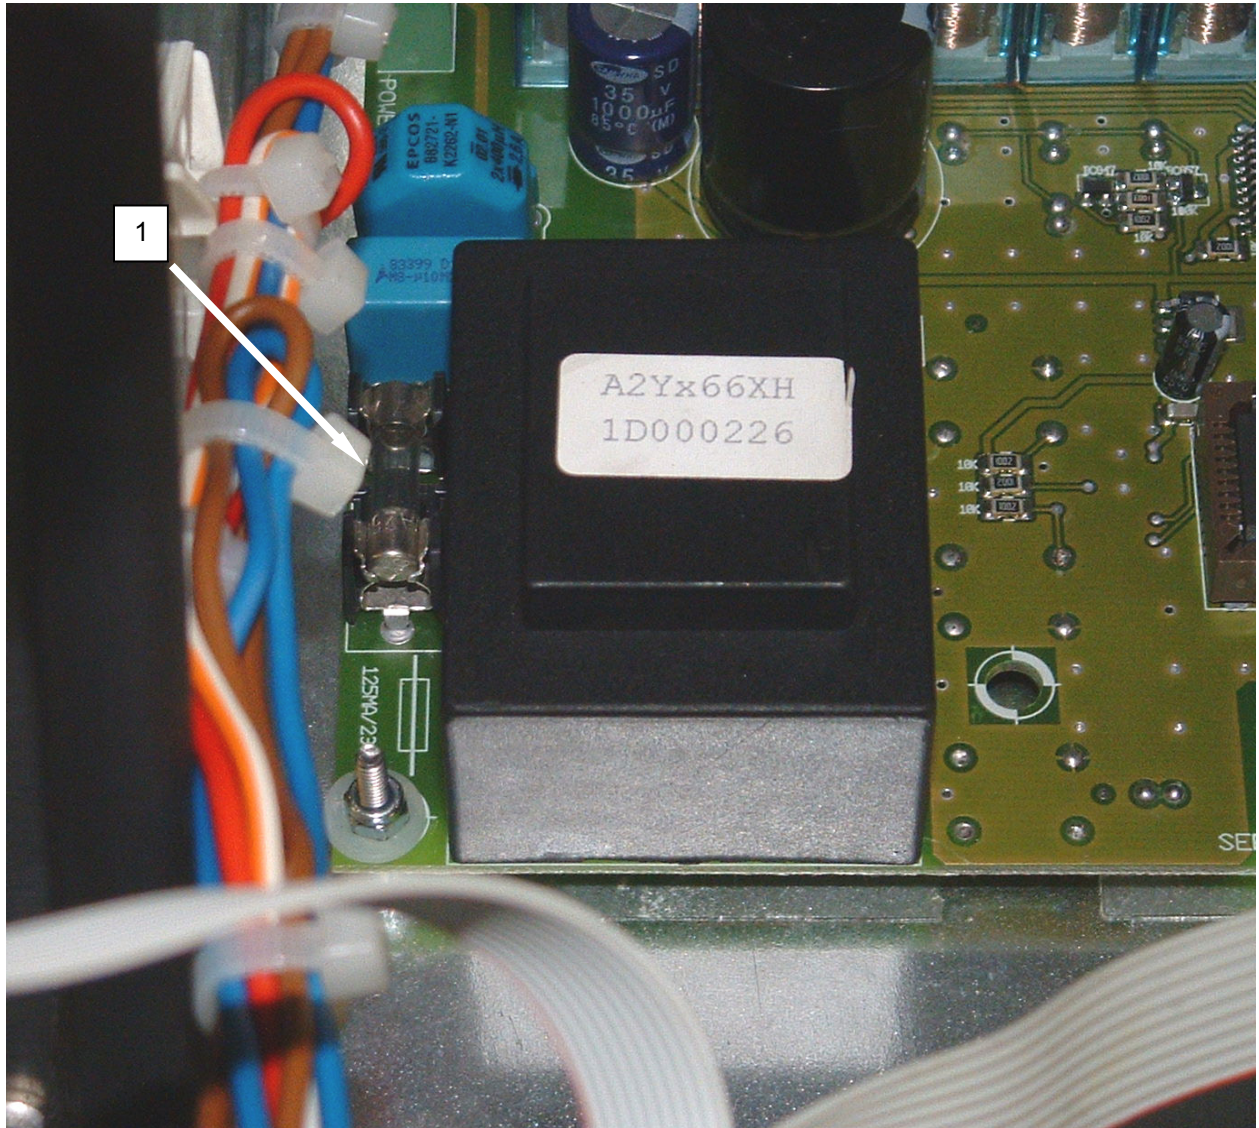

Figure 1. Test the Microprocessor Board Fuse.
3. Remove the fuse (**Figure 1, Item 1**).
5. Install the fuse (**Figure 1, Item 1**).